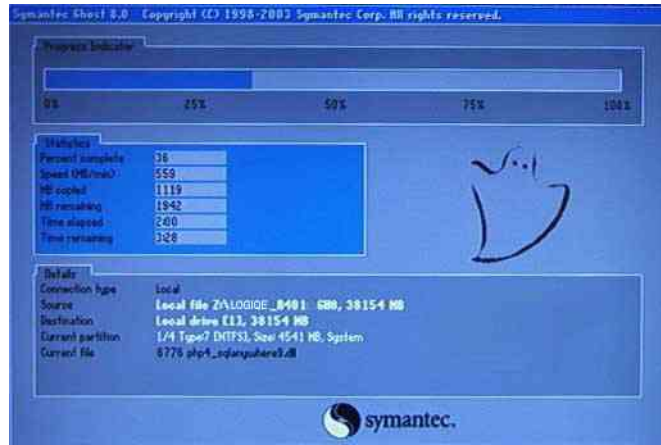

Figure 8-6 System CD loading
8.) System CD will be loaded as shown in Figure 8-6 on page 8-6 .
If the screen displays as show in Figure 8-7 on page 8-6 after input "Yes", wait about 1 minute until Figure 8-6 on page 8-6 displays.